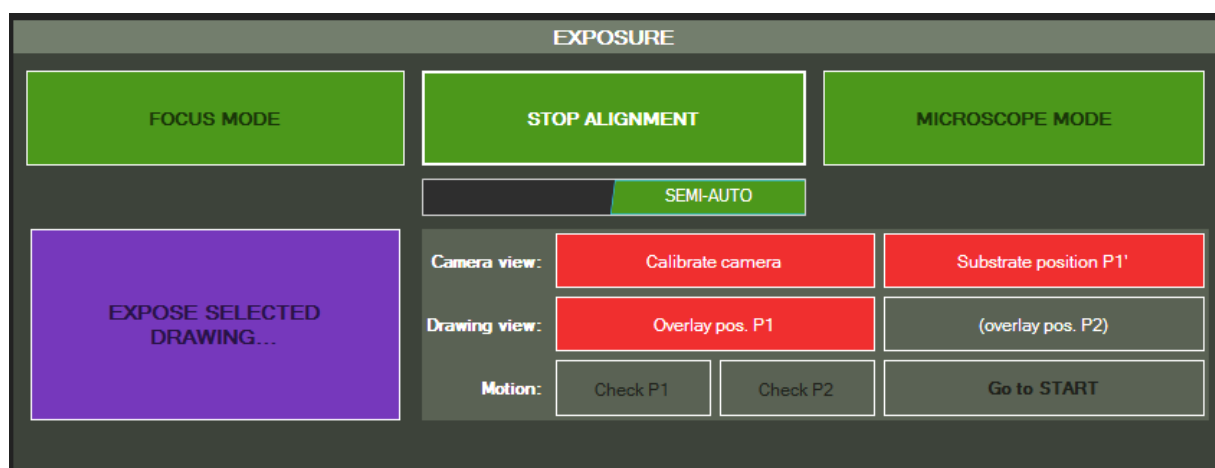

Figure 51 - Semi-automatic alignment mode
- Click on **Alignment mode** and set the **toggle switch** below to **SEMI-AUTO** (Figure 51).